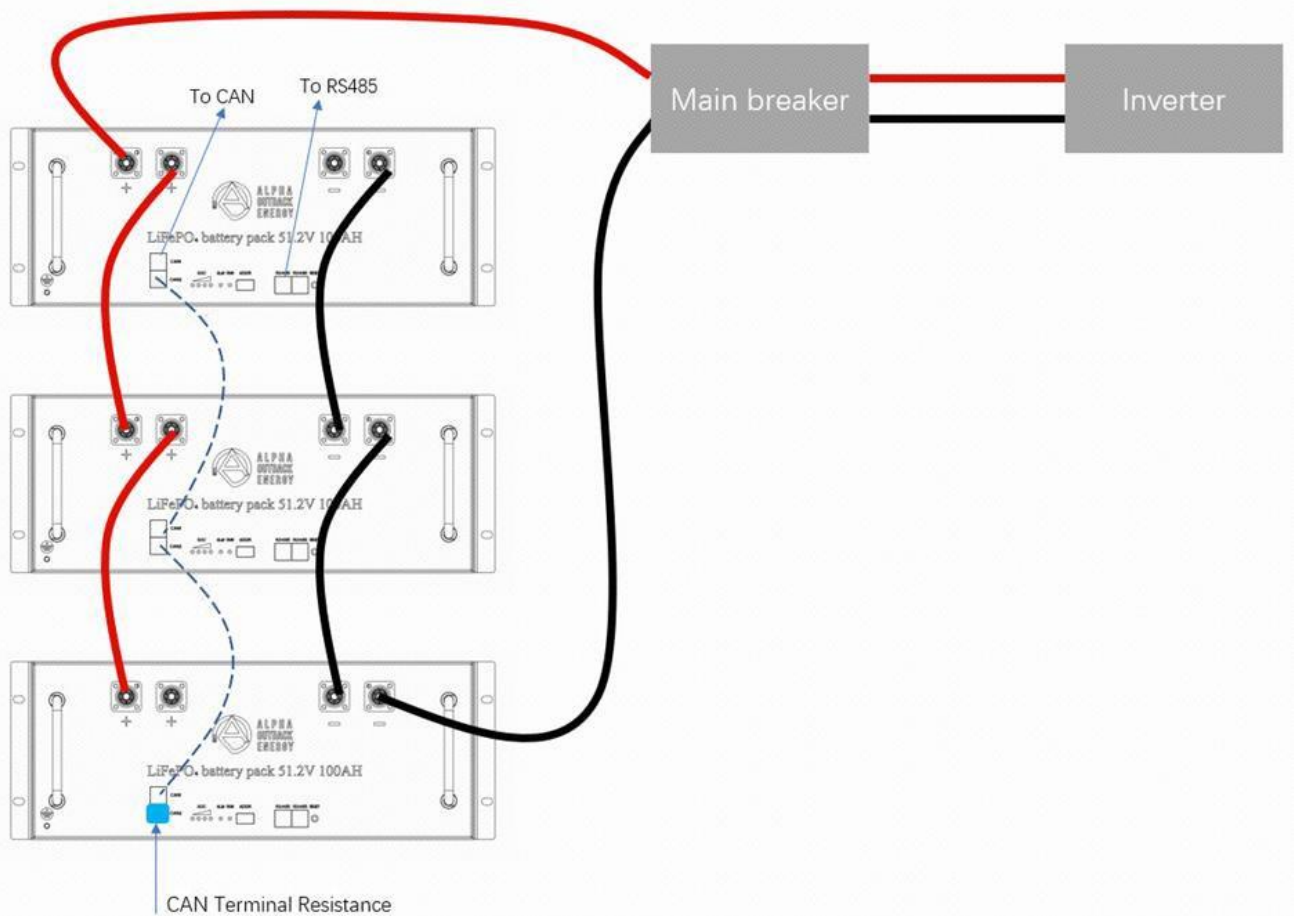

Figure 4. Wiring example for parallel connection
5. Connect the CAN communication interface between the batteries, set the dial switch address as Table 3-5, and insert the matching resistance terminal into the CAN port at the end of battery, as Figure 4.